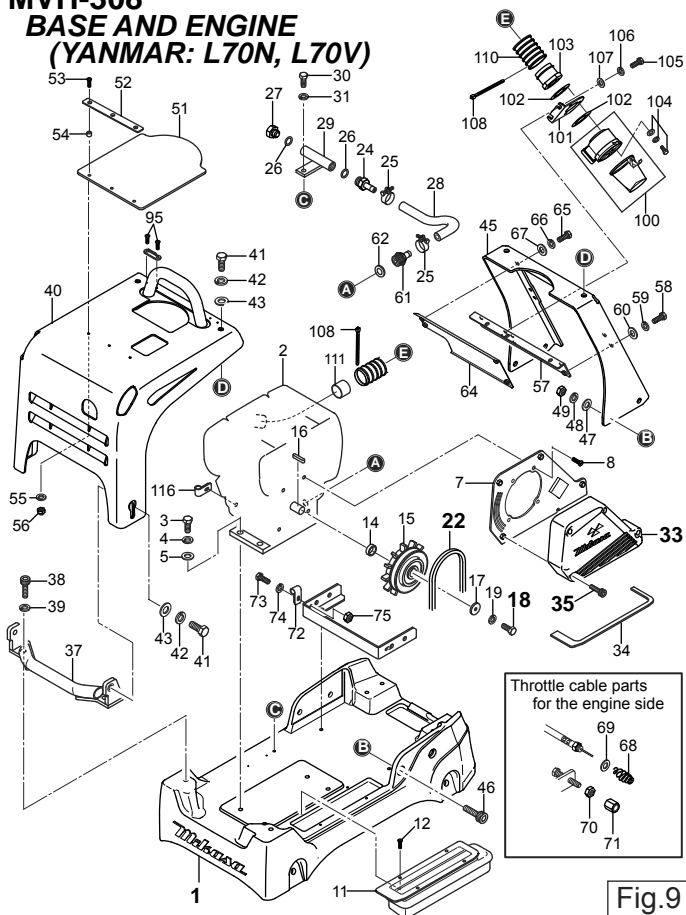

Fig.9
(1) Disassembly
- a. Remove 4 bolts (35), then remove the belt cover OUT (33). (Fig. 9)
- b. Remove the V-belt (22).
c. Remove 4 bolts of anti-vibration rubber that are fixing the engine base(1). then engine base and vibrating plate AY are separated by lifting the lifting hook on main body. (Fig. 9)